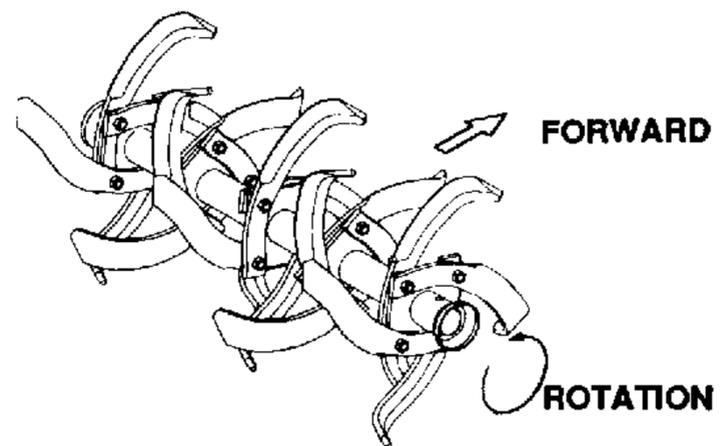

Figure 7-68. Tiller Tines.
- The sharpened edges of all tine blades must face in the direction of rotation, which is rearward from the top. Refer to Figure 7-68.